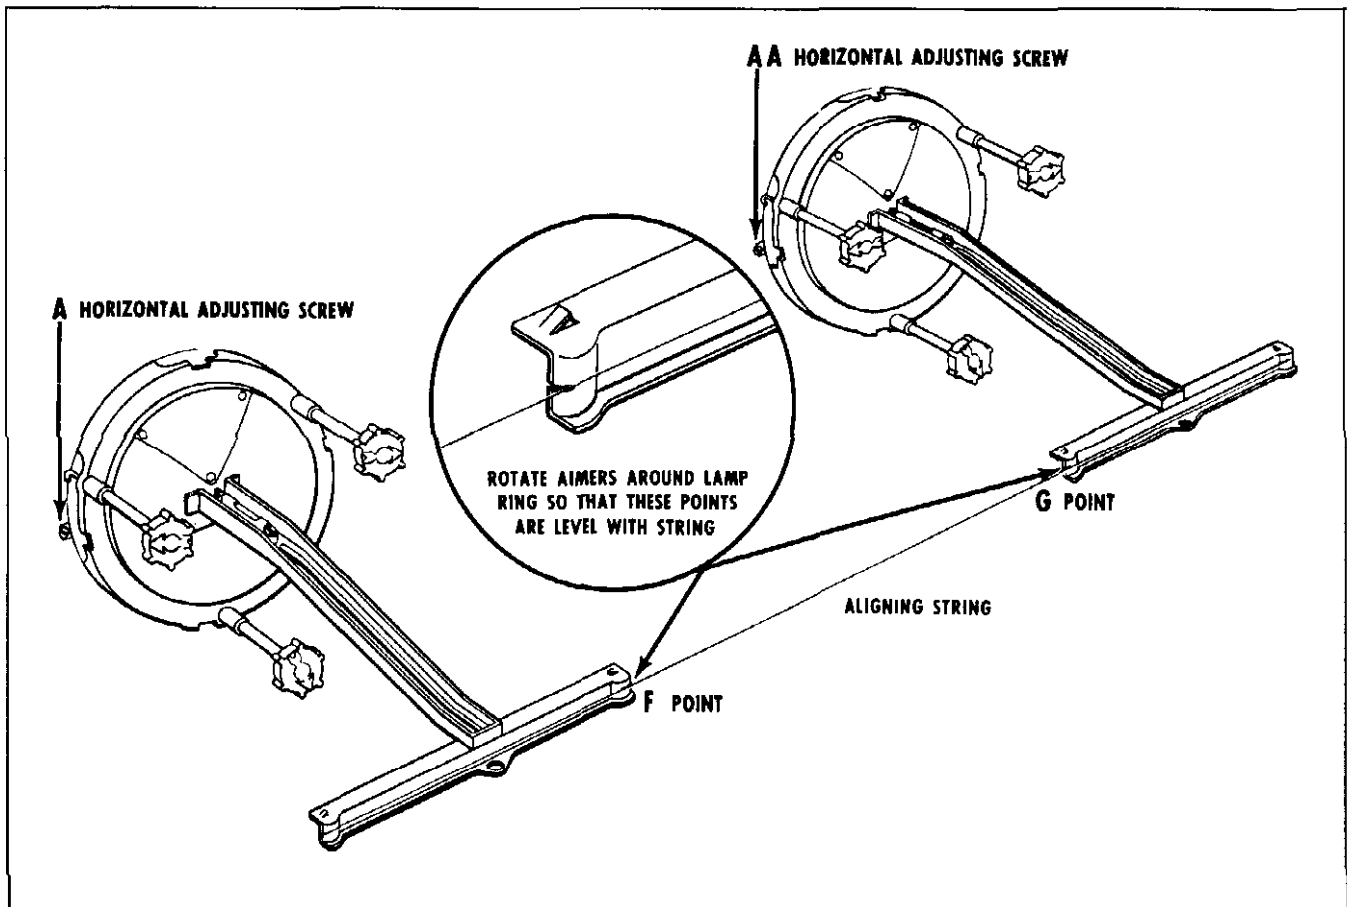

Fig. 12-62 Horizontal Adjustment
- a. Adjust left headlamp by turning horizontal adjusting screw AA in or out to make string first touch point G (Fig. 12-62).